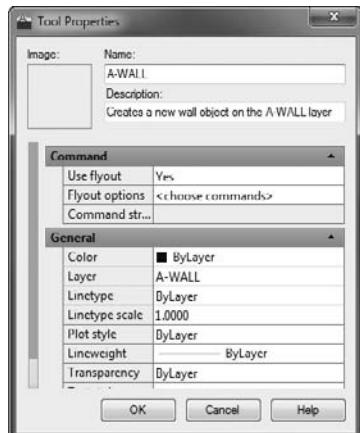

FIGURE 11.33 Changing the name and description for the A-WALL command tool
5. From the Tool Properties dialog box, enter A-WALL for the name, and enter Creates a new wall object on the A-WALL layer as the description (see Figure 11.33).